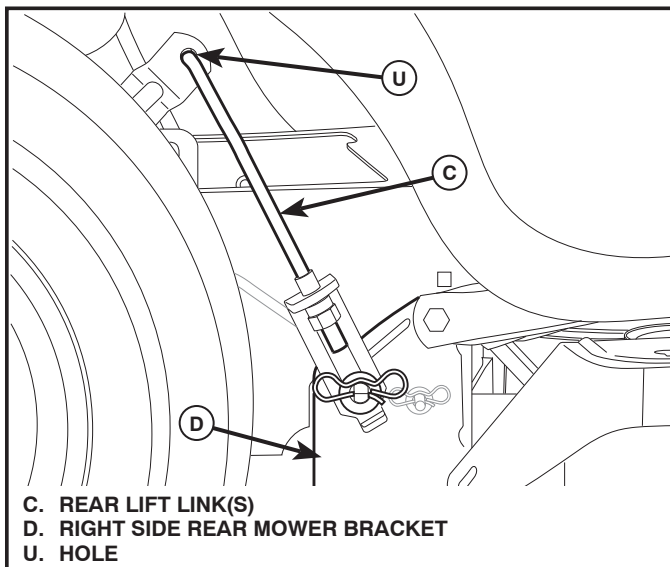

Fig. 31
7. ATTACH REAR LIFT LINKS (C) (See Fig. 31)
- Insert rod end of rear lift link (C) into hole (U) in tractor lift shaft suspension arm and pivot link down to mower.
- Lift rear corner of mower and position slot in link assembly over pin on rear mower bracket (D) and secure with large washer and large retainer spring.